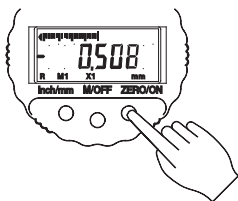

Figure 2 - Changing Measurement Direction
- 2) Press and release **ZERO/ON** to select the desired measurement direction signified by the “R” icon for reverse mode and no icon for the normal mode (Figure 2).